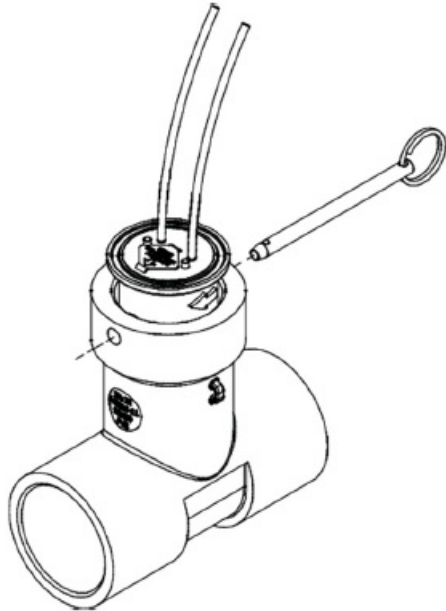

Figure 13
1. Clean all dirt and debris away from the immediate area of the old insert and the top of the meter then pull out the quick release pin from the meter (see Figure 13).